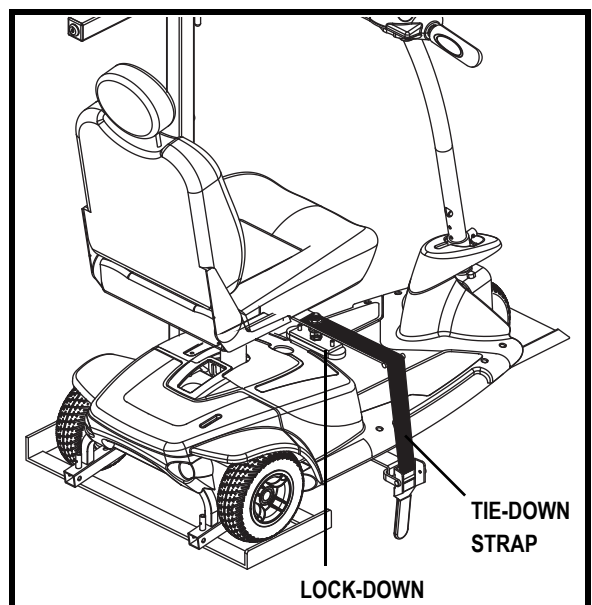

Figure 7. Power Tote PT-150 Lock-down Arm
5. Lower the lock-down arm over the mobility device floorboard. **See figure 7.**
8. Attach the tie-down strap to the securement bracket on the platform and tighten the strap. See figure 7.